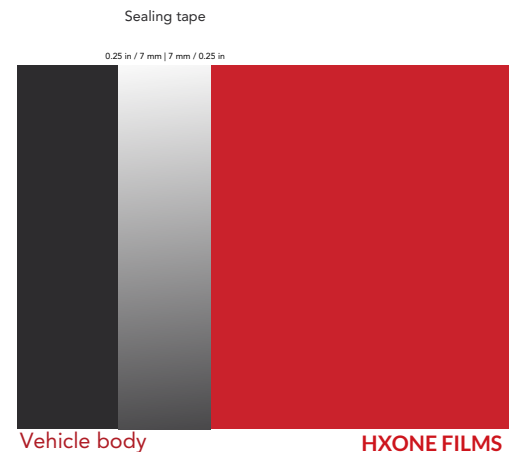

Figure 31
- Apply the strip by overlapping it by approximately 7 mm (¼ in.) over the body work and 7 mm (¼ in.) over the HXONE film. (FIG. 31)